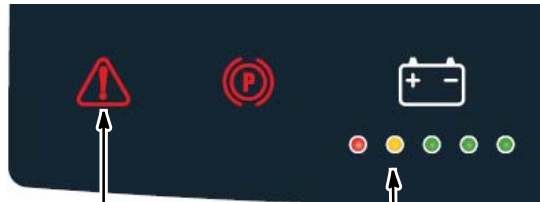

FIG. 91
4. Remove the solution tank filter and clean screen after every 50 hours of use (Figure 91). Solution filter is located under machine at rear. Drain solution tank before removing filter.